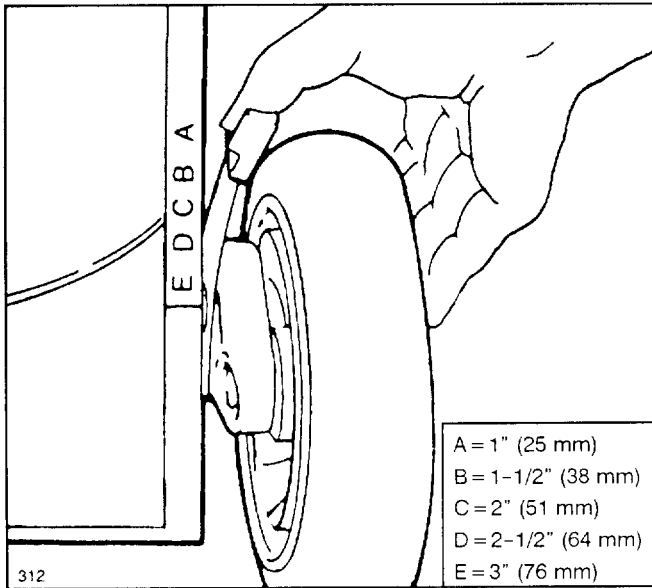

Figure 8
Five letters cast into the housing represent the height-of-cut settings (Fig. 8).
2. For easier adjustment, lift housing up so wheel is off ground. **Do not put fingers under housing when lifting.** Squeeze adjusting lever toward wheel and move to desired setting (Fig. 8). Assure pin on adjusting lever engages notch in housing. Adjust all wheels to the same setting.